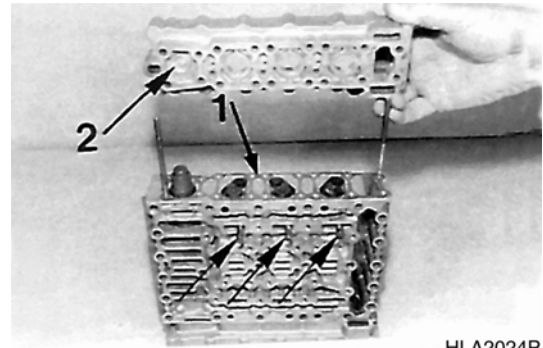

Figure 74
- E. Assemble gasket (1, Figure 74) and housing cover, and position them uniformly against shoulder, using adjusting screws.
NOTE: Pay attention to different housing covers, install recess $\varnothing$ 19.0 mm (0.7480 in) (2, Figure 74), facing main pressure valve.